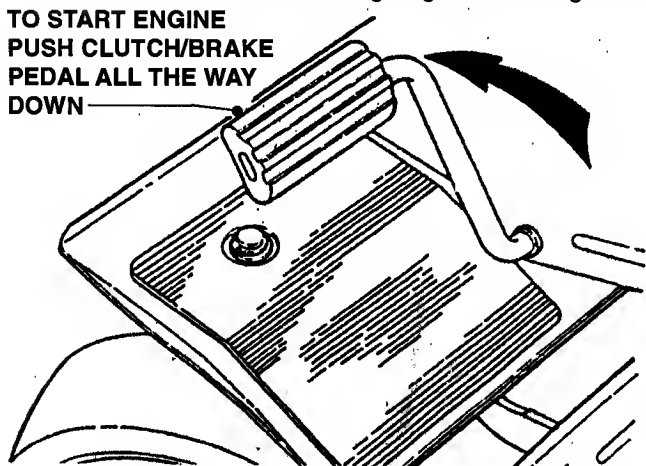

FIGURE 2.5
**IMPORTANT:** When the ignition key is turned to "START", the engine will turn over, but will not start unless the Clutch/Brake pedal is pressed all the way down, the Blade Lever is in the "OFF" position (See Figure 2.5). The operator should be in the seat. Start engine as follows:
1. Move transmission shift lever to (N) Neutral position. DO NOT start engine with transmission shift lever in a drive position.
3. Press Clutch/Brake Pedal all the way down and hold while starting engine. See Figure 2.5.